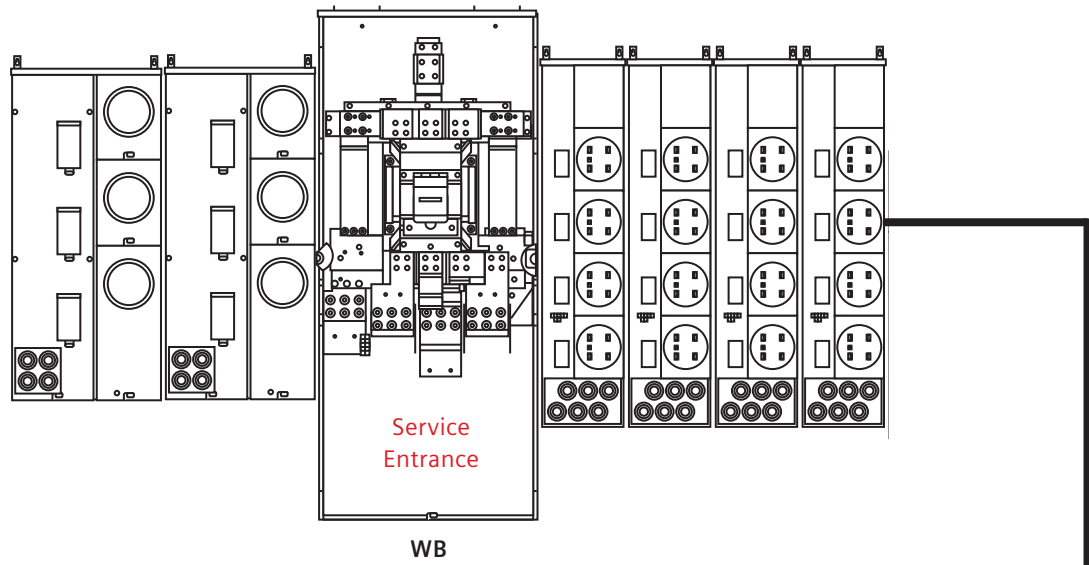

Figure 3
Utilize the WXB cross bus mains to lower your overall material cost. When a large ampacity main is needed (1200A or above) utilizing a tap box and a WXB main can lower the overall cost by eliminating costly large frame breakers from the installation. As shown in figures 3 and 4 the installation does require more wall space, but the overall dollars are lower.
Details: This installation can meet the same application as Figure 3 above, but replaces the 1600 Amp WB main with a tap box (WT31600PU in this case). The service disconnects are labeled #1 and #2 above. By dividing the incoming current into 2 mains- even though more modules were added- the overall list price DROPS to \$13,982. Width grows by 31", BUT there is now a 9% savings on material! ①
① Pricing subject to change without notice.